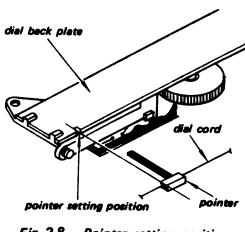

Fig. 2-8 Pointer setting position
3. String the dial cord in numerical order as shown in Fig. 2-8.
4. After stringing, set the dial pointer at pointer setting position shown in Fig. 2-8.